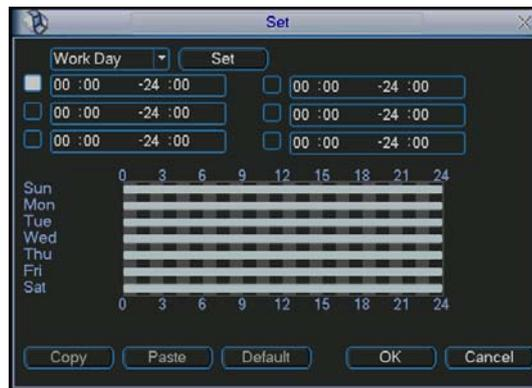
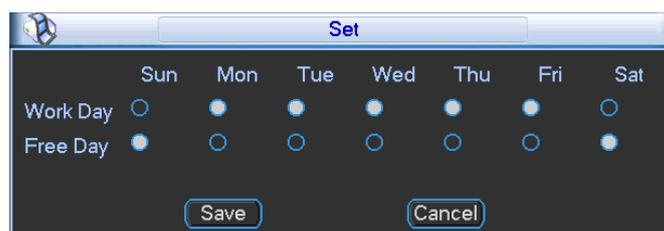

Figure 4-23
Figure 4-24
- Period: Click set button, you can see an interface is shown as in Figure 4-23. Here you can set for business day and non-business day. In Figure 4-23, click set button, you can see an interface is shown as in Figure 4-24. Here you can set your own setup for business day and non-business day.